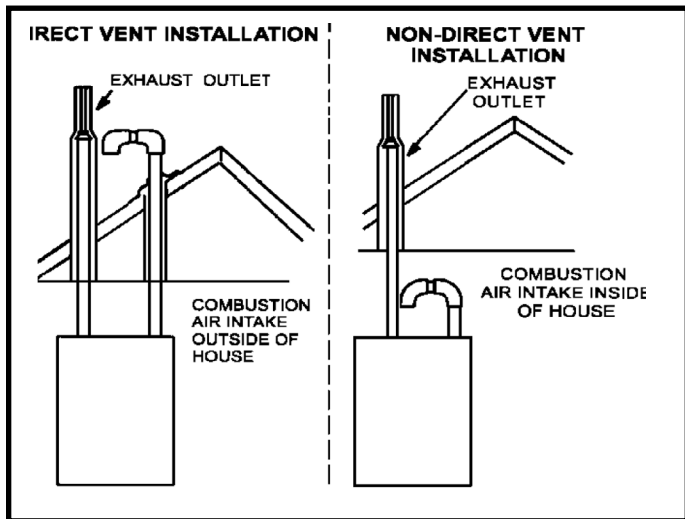

Figure 2
**NOTE:** In Direct Vent installations, combustion air is taken from outdoors and flue gases are discharged outdoors. In Non-Direct Vent installations, combustion air is taken from indoors or ventilated attic or crawlspace and flue gases are discharged outdoors. See Figures 2 and 3 for applications involving roof termination.